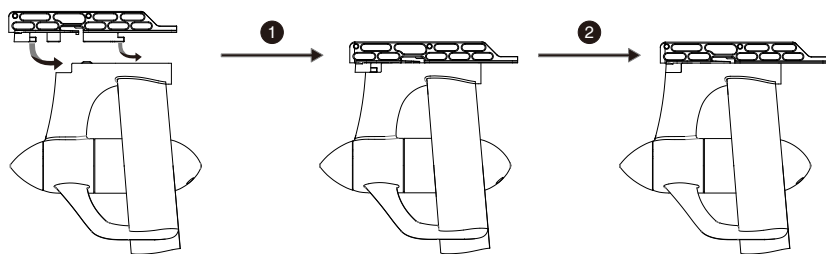

Figure 3-1
- 1) Attach a US fin box adapter onto the motor module base as shown in the Figure 3-1. First align the adapter with the motor base; then insert the adapter into the motor base until it is well attached.